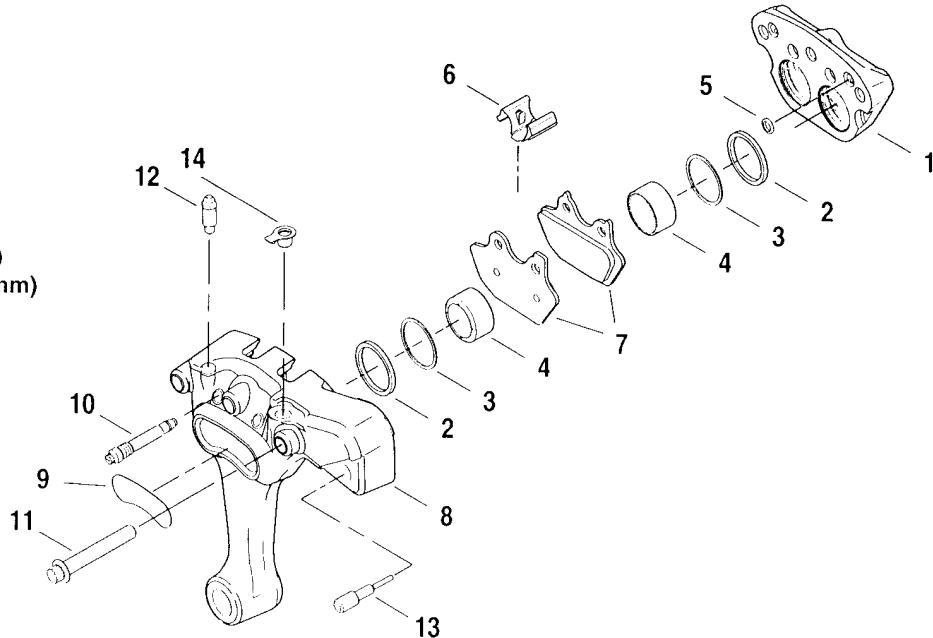

Figure 2-79. Rear Brake Caliper
1. See Figure 2-79. Remove pad pins (10) (12 pt/0.25 in.), brake pads (7) and bridge bolts (11) (12 pt/10 mm) to separate caliper housings (1, 8).